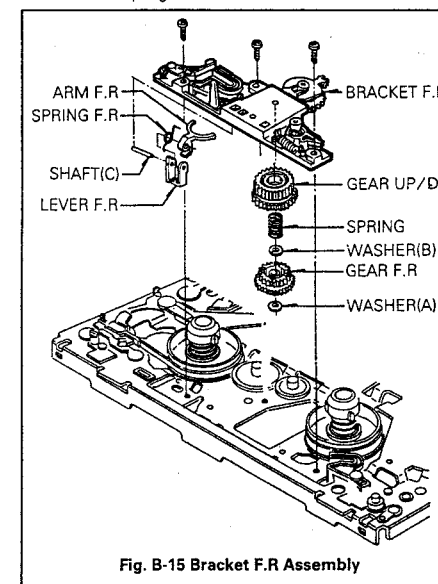

Fig. B-15 Bracket F.R Assembly
- ② Remove the TSB.
- ① Remove the TMB Spring.
- ② Remove the TMB.
15. Bracket F/R(FF/Rewind) Assembly(Fig. B-15)